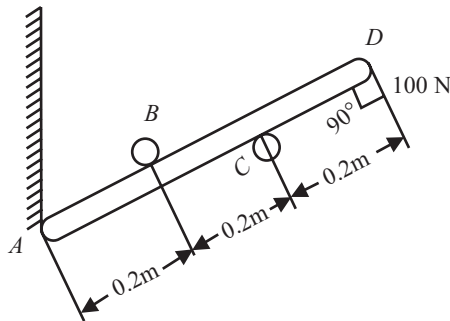

Fig 8.14
Q. 4: A light rod AD is supported by frictionless pegs at B and C and rests against a frictionless wall at A as shown in fig 8.14 . A force of 100N is applied at end D. Determine the reaction at A, B and C.